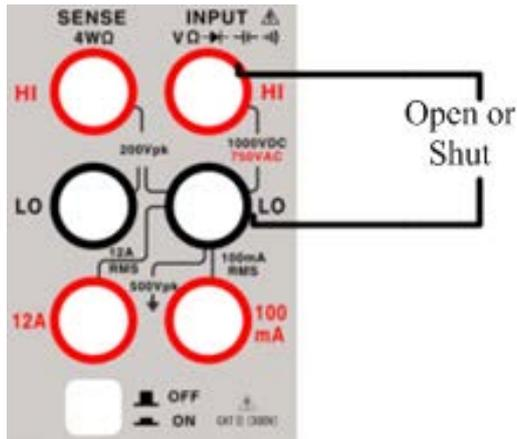

Figure 2.6.4 On-off measurement terminal connection
2. According to Figure 2.6.4, connect the red and black test leads respectively to the proper input terminals.